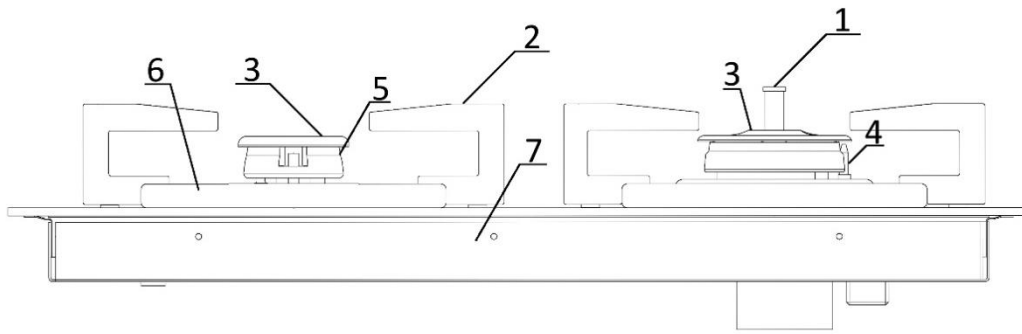

Fig. 2 Side view (from the right) of the GNC hob
- place the burner body (**item 5, fig. 2**) in the hob's body (**item 7, fig. 2**) paying attention that it is evenly (horizontally) placed,
- place the burner cap (**item 3, Fig. 2**) centrally on the burner ring; be careful when placing caps on burners with a temperature sensor (**item 1, Fig. 2**),
- place grids (**item 2, Fig. 2**) on the hob's glass plate, making sure that the metal pins fit the openings in the glass,